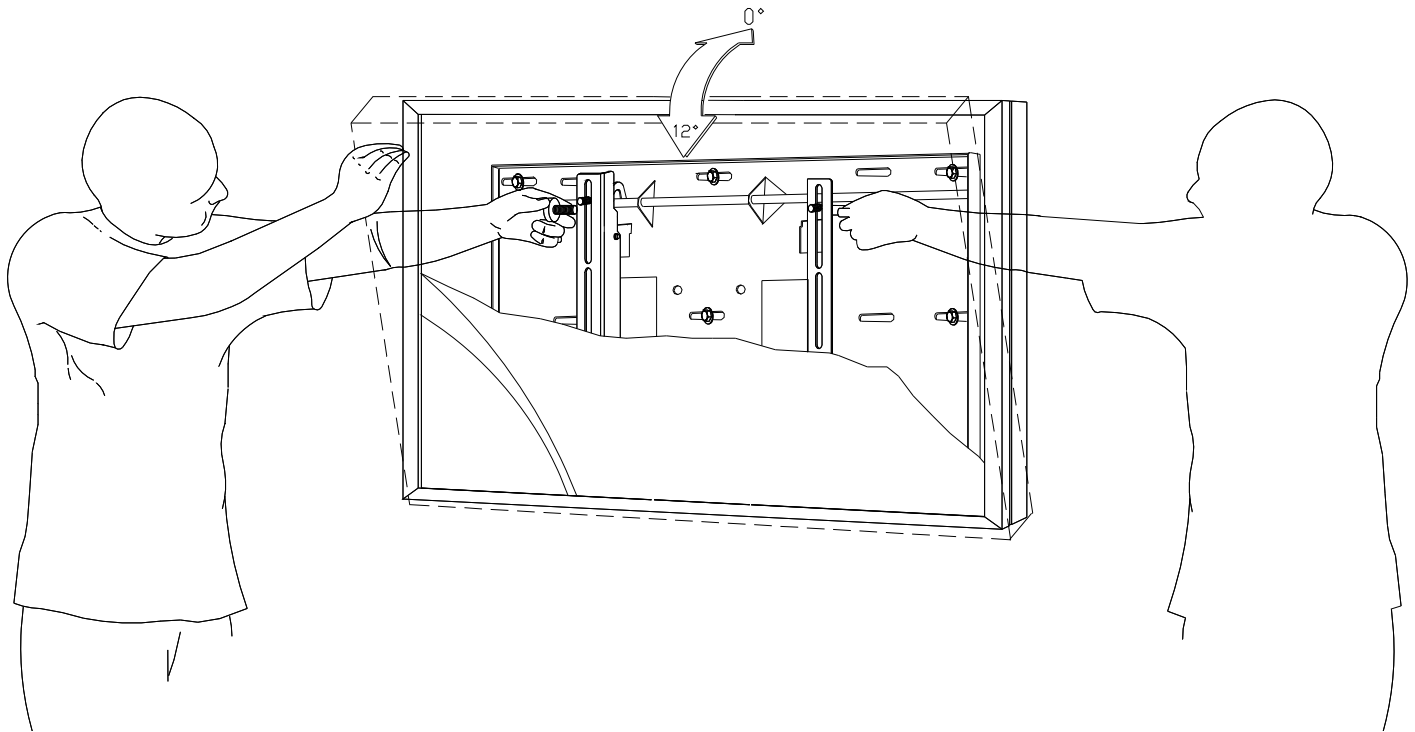

Figure 19
3. Tilt the flat panel and secure the safety knobs to each of the mounting brackets (Figure 19).